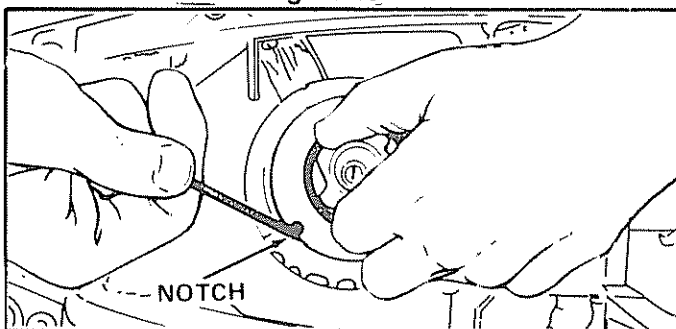

Figure 19
- Hold the 10 inch slack in the rope and catch rope in pulley notch. Figure 19.